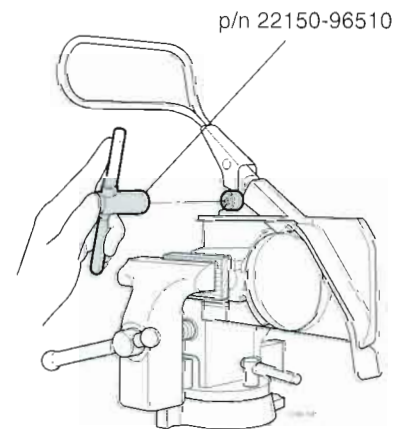

Figure 10.8 Releasing Lever Spring Tension (575 shown)
STEP 2. Use pliers (575-695 requires spring tool p/n 22150-96510) to release tension on the lever spring (Figure 10.8), and then remove the lever nut and spring.